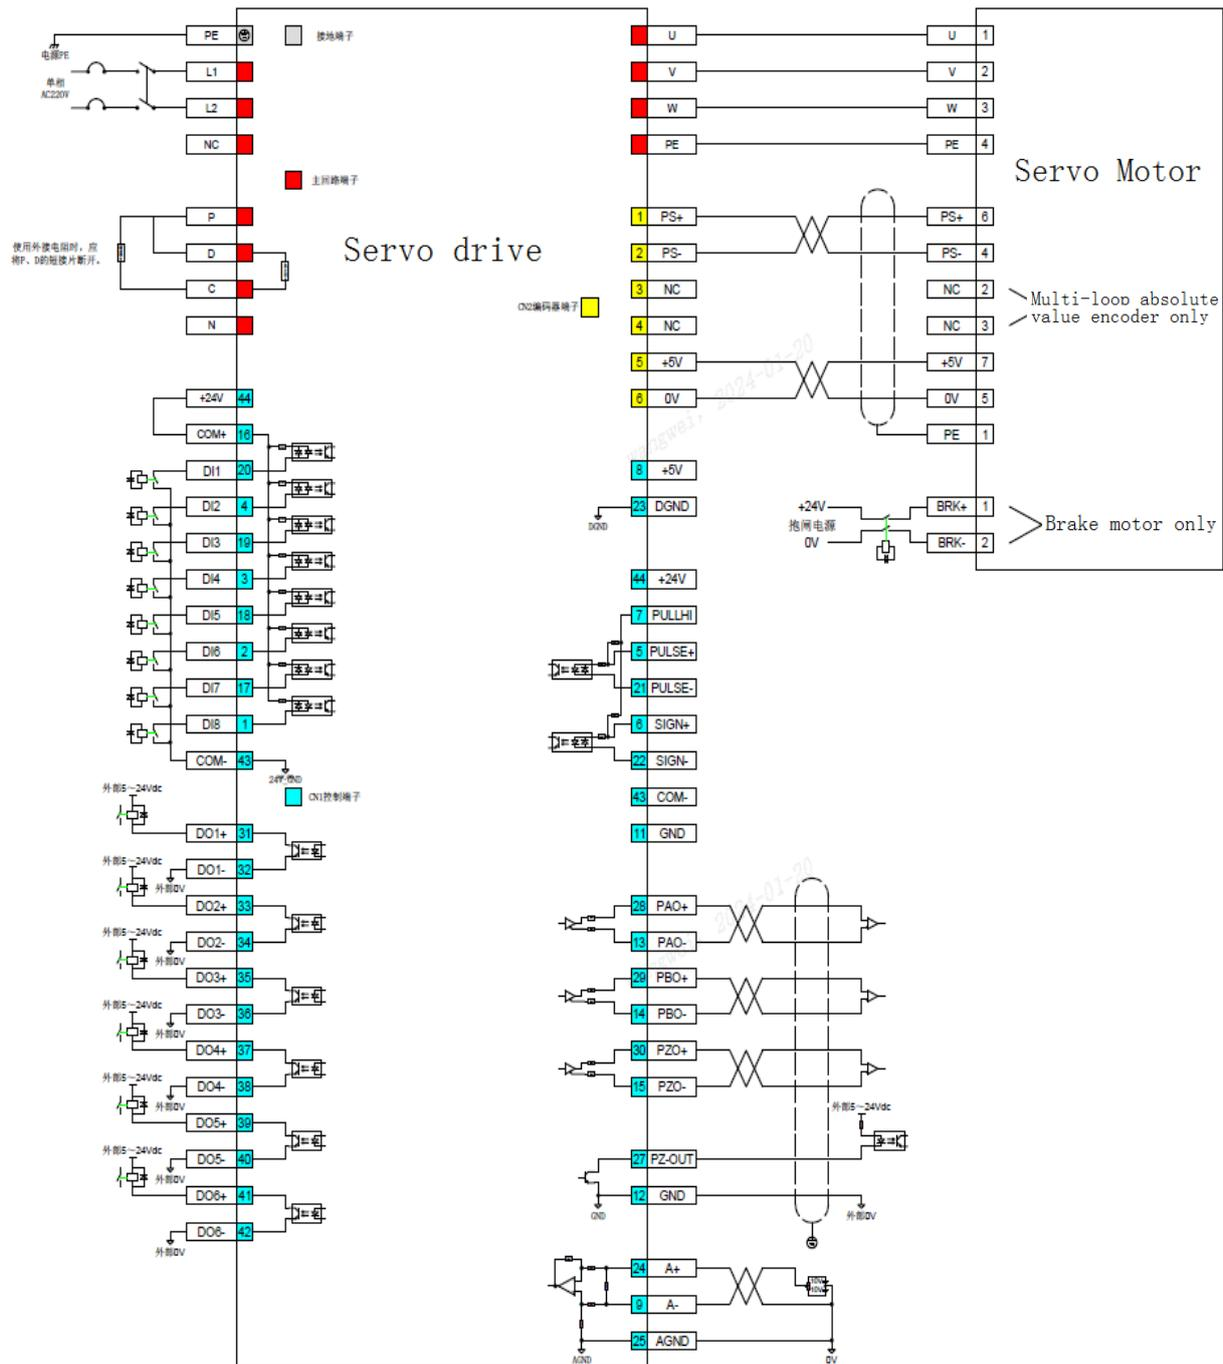

Figure38 Speed Mode Wiring Diagram
- 3) Refer to Figure 38 Wiring Instructions to connect the required DI/DO signals in the CN1 terminal, such as servo enable, alarm clear, positioning completion signal, etc.